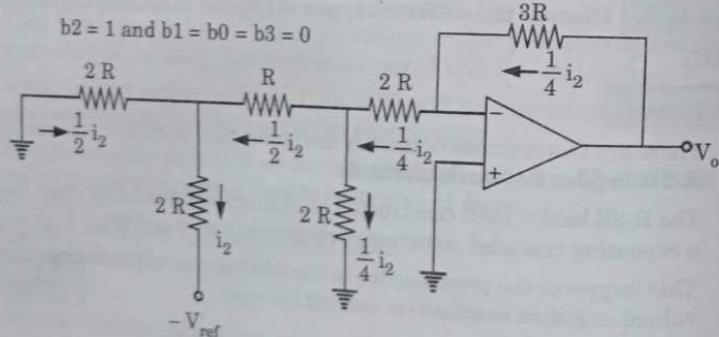
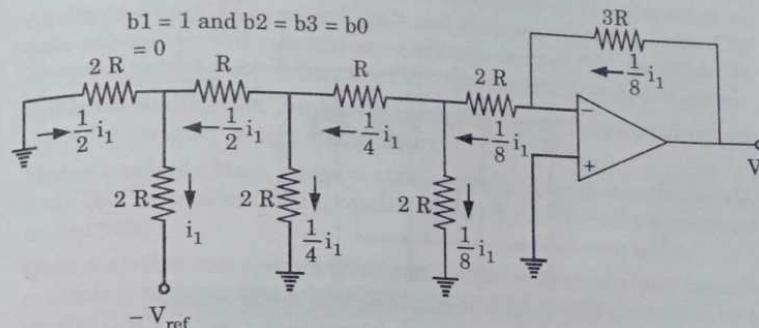

Fig. 4.15.3.
Fig. 4.15.4.
5. Similarly, If  $b_2 = 1$ , and  $b_3 = b_1 = b_0 = 0$ , then the output voltage is  $V_o = 3R(i_2/4) = V_{ref}/4$  and the simplified circuit is shown in Fig. 4.15.3.
6. If  $b_1 = 1$  and  $b_2 = b_3 = b_0 = 0$ , then the simplified form of Fig. 4.15.3 DAC circuit is shown in Fig. 4.15.4. The output voltage is  $V_o = 3R(i_1/8) = V_{ref}/8$ .